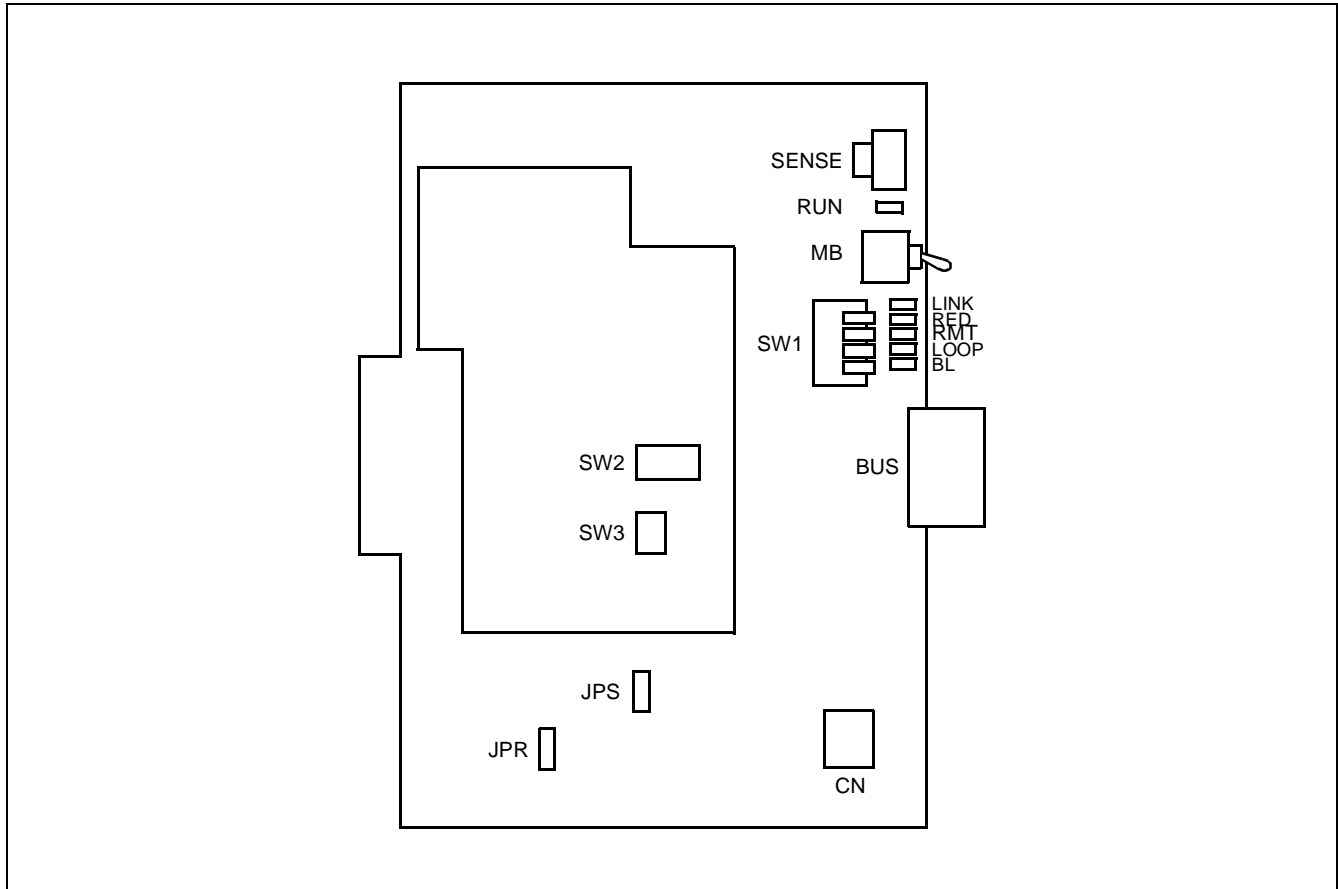

Figure 3-14 PN-DAIB Card
- (1) Location of Lamps, Switches, and Connectors (see Figure 3-14)